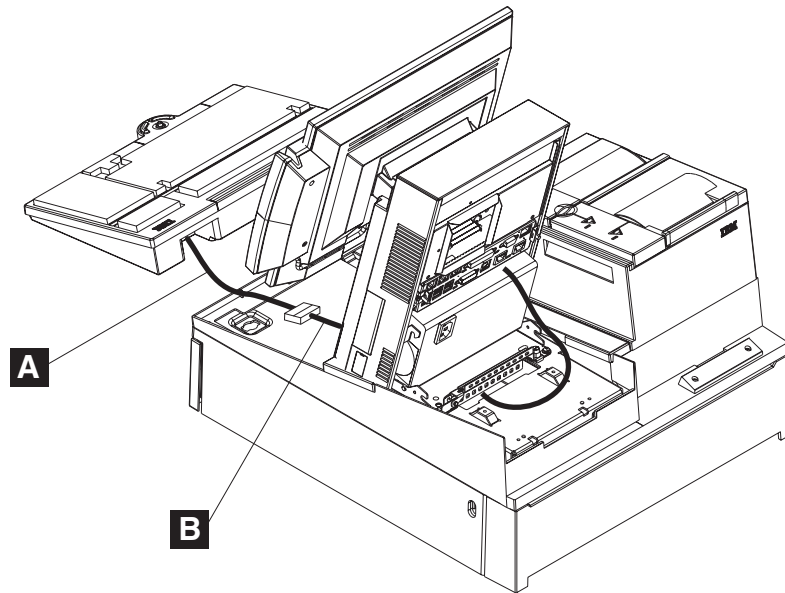

Figure 69. Removing the keyboard Y-cable
- a. Remove filler panel by lifting the filler panel post up and off of slot, as shown in the exploded view in Figure 69.